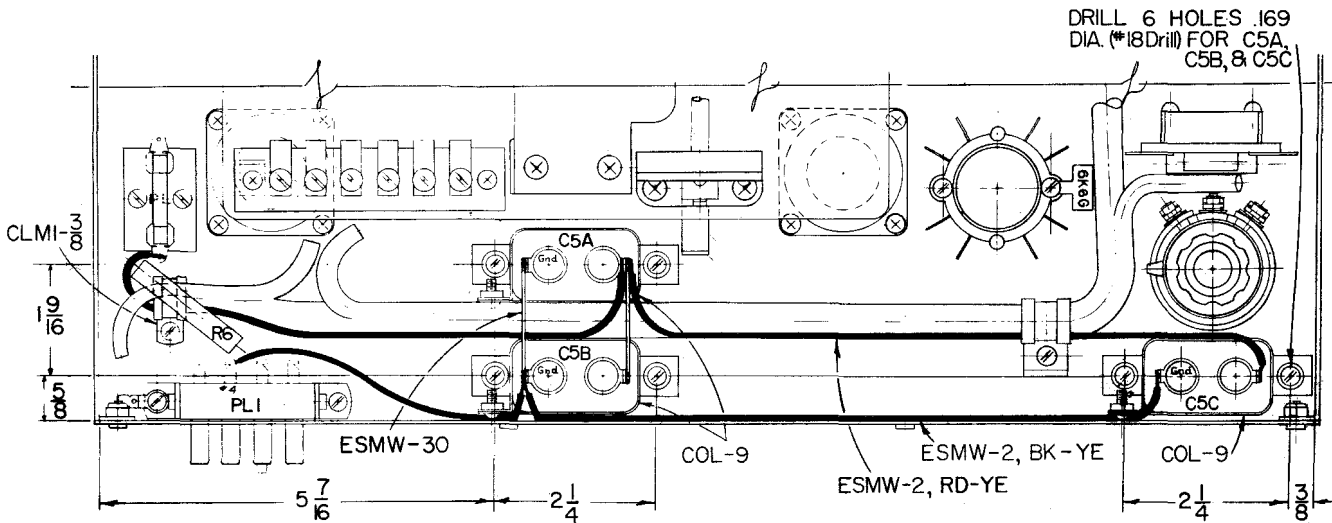

Figure 6. Type 1103-A Modification Kit Installation, Top Rear View.
4.2 INSTALLATION OF FILTER CAPACITORS IN SYNCHRONOMETER. (See Figure 6.)